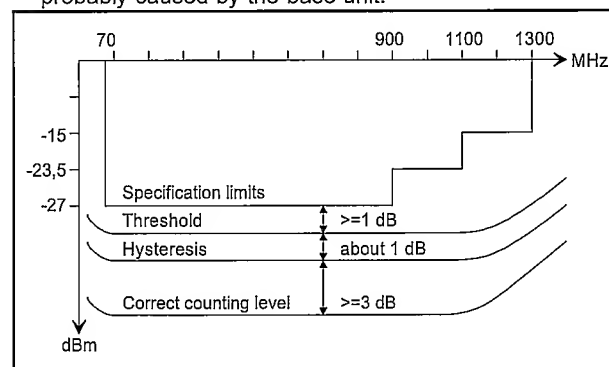

Figure 5-24 Sensitivity and Counting levels.
- Check the "Correct sensitivity and counting" levels according to Figure 5-24 to find out which part may have caused the fault. If everything seems all right, the fault is probably caused by the base unit.